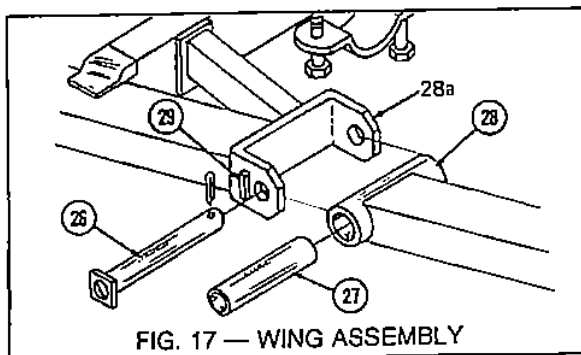

FIG. 17 — WING ASSEMBLY
7. Wing Connections: (See Fig. 17)